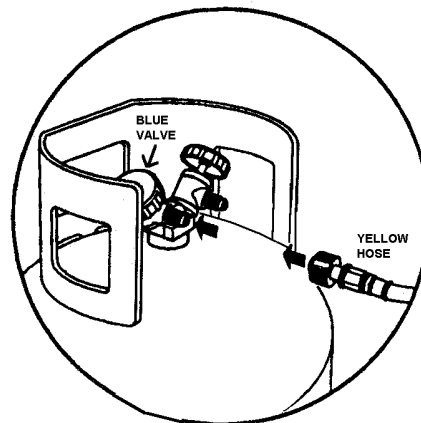

FIGURE 2 RECOVERY TANK
1. Referring to FIGURE 2, open the **BLUE** valve on Recovery Tank to release ALL COMPRESSED AIR.
4. Attach open end of Yellow Hose to **BLUE** valve on Recovery Tank (Refer to FIGURE 2). Attach other end of Yellow Hose with the anti-blow back valve to the service port on back of unit. Open ball valve on yellow hose.